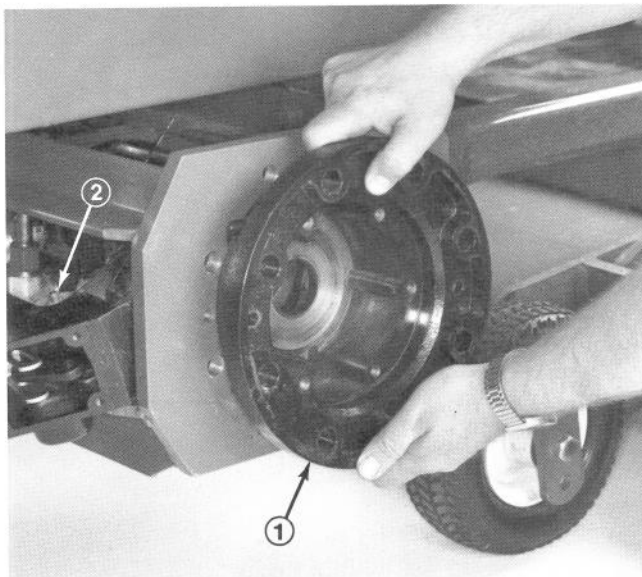

Figure 9
15. Remove two (2) capscrews and lockwashers securing brake housing to frame. If replacing the seal, remove brake housing (Fig. 9)
16. Maneuver wheel motor or motor assembly to gain access to elbow fitting. Remove and discard elbow fitting from wheel motor and replace with tee fitting supplied in kit (Fig. 9).